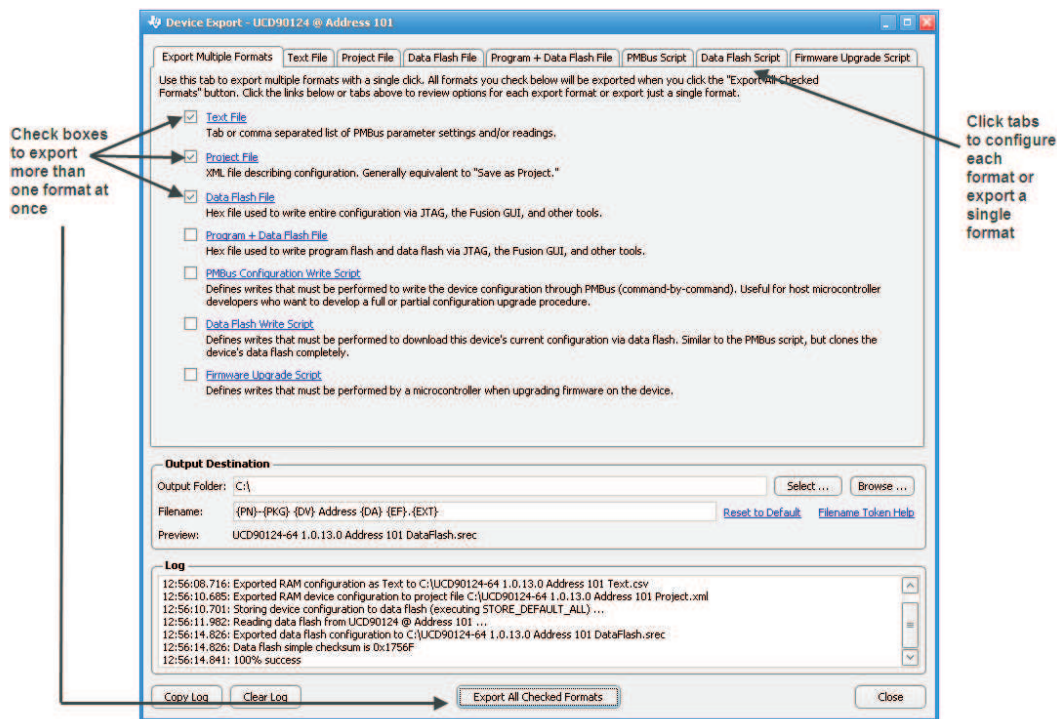

Figure 26. Fusion GUI Device Configuration Export Tool
3. Another in-circuit programming option is for the *Fusion GUI* to create a data flash image from the configuration file (Figure 26). The configuration files can be exported in Intel Hex, Serial Vector Format (SVF) and S-record. The image file can be downloaded into the device using I²C or JTAG. The *Fusion GUI* tools can be used on-board if the *Fusion GUI* can gain ownership of the target board I²C bus.